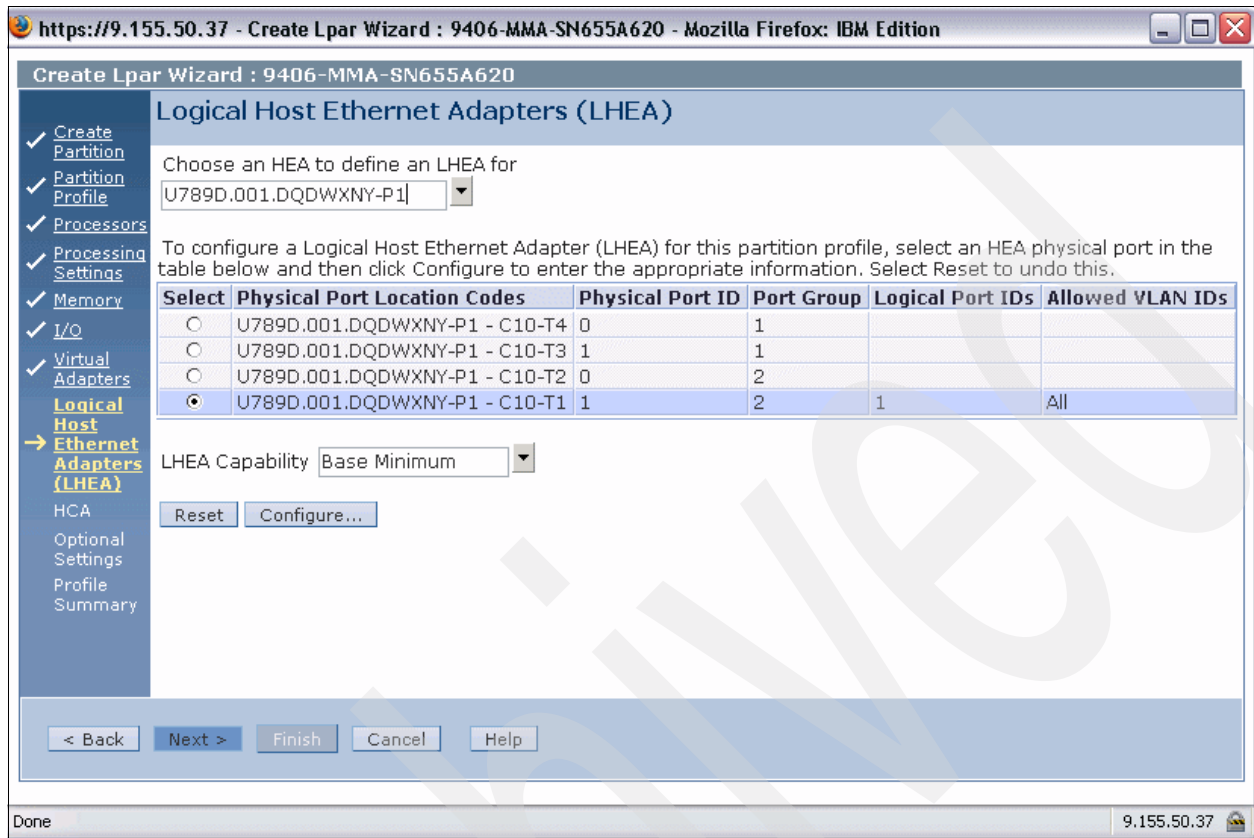

Figure 6-17 Logical Host Ethernet Adapters dialog
15. The Logical Host Ethernet Adapters dialog now reflects our HEA port logical configuration, as shown in Figure 6-17, and we select **Next** to proceed.